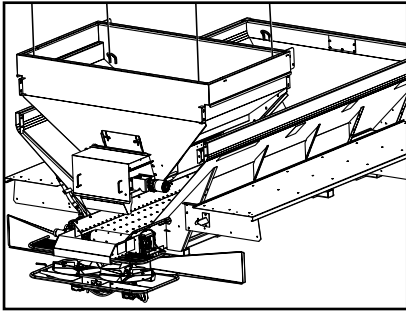

Figure 4A
- a. Figure 4A - Hoist and slide MULTAPPLIER into position between main bin's side sheets.